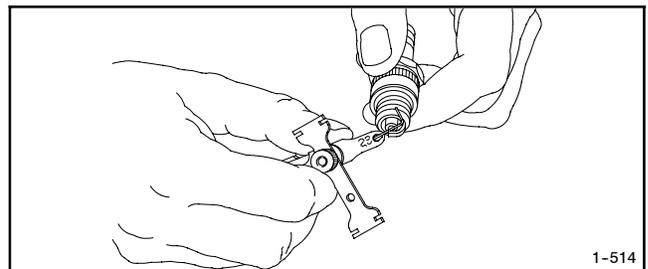
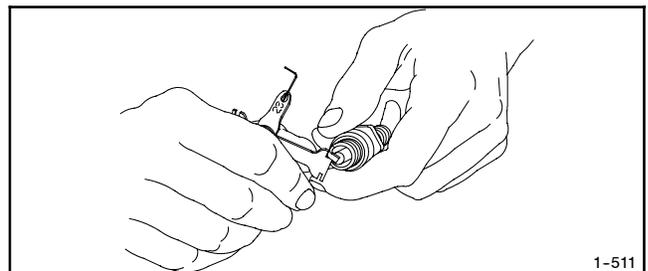

Figure 4-3 Checking the Spark Plug Gap
Figure 4-4 Adjusting the Spark Plug Gap
3. Check the spark plug gap using a wire feeler gauge. Adjust the gap to 0.76 mm (0.030 in.) by carefully bending the ground electrode. See Figure 4-3 and Figure 4-4.